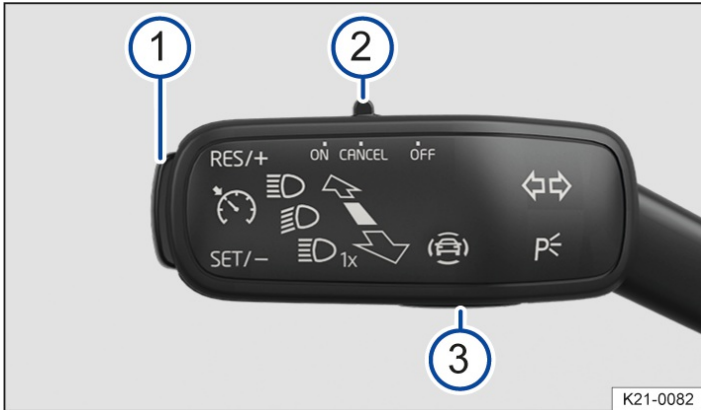

Fig. 1 On the left of the steering column: switches and buttons for operating the cruise control system.
1. Slide the → *fig. 1* ② switch into the **ON** position.
1. While driving, press the → *fig. 1* ① button into the **SET/-** position.